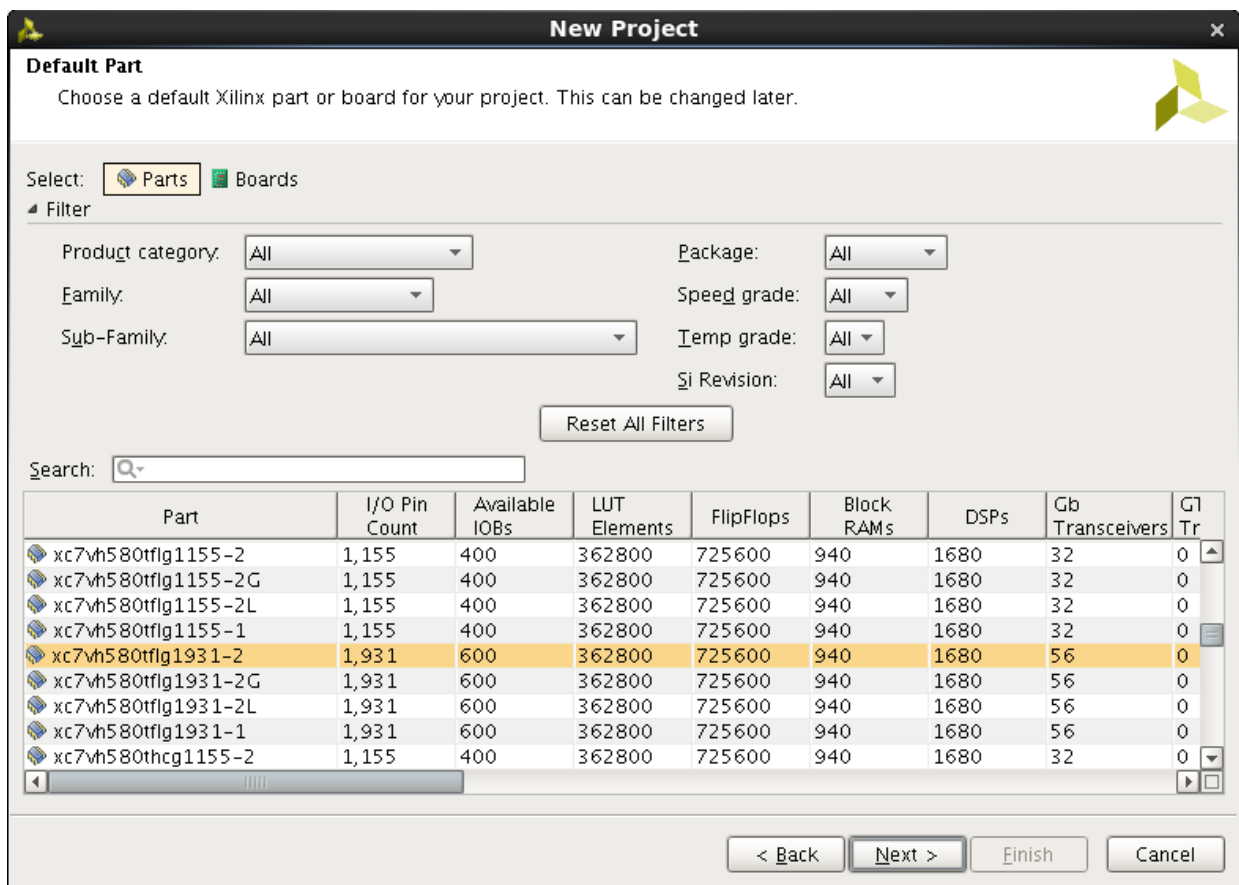
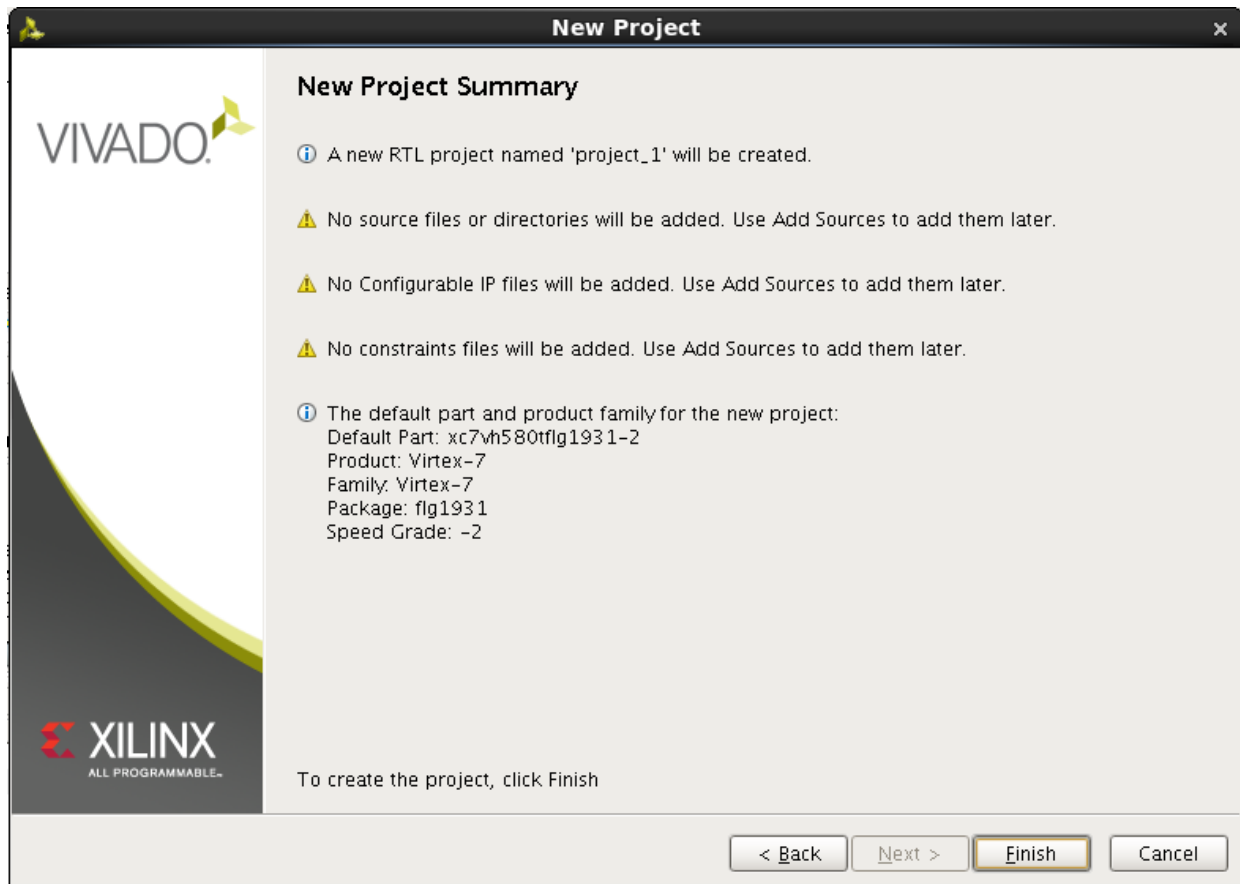

Figure 4-3: Target Architecture Setting
Figure 4-4: Target Architecture Setting (Vivado Tools)
4. Select an appropriate package from the Package list. This example uses the XC7V1500T device (see Figure 4-3 or Figure 4-4). For an example design using GTZ transceivers, select the XC7VH580T device.